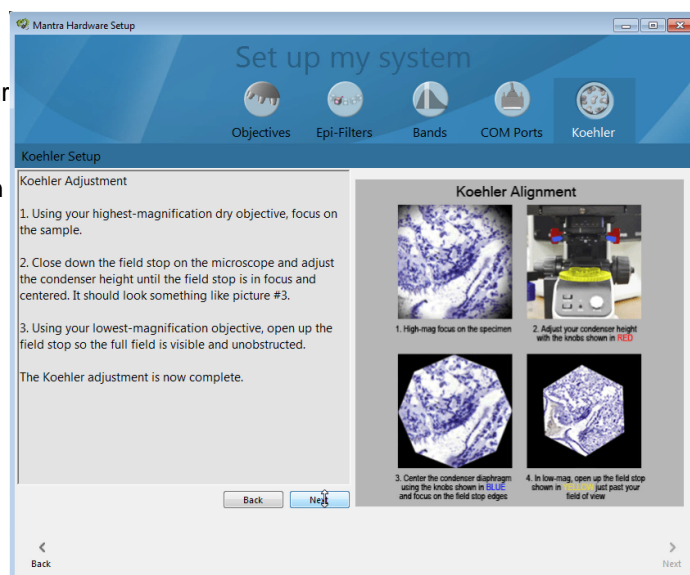

Figure 52. Step 2 of the Koehler alignment procedure requires you to center and focus on the edges of the field stop.
Step 2. Use the Objective rocker switch on your Mantra system to select the highest magnification (20X or 40X, depending on your configuration). Close down the field stop by rotating the ring located around the brightfield illuminator (highlighted in yellow in Figure 52). Then adjust the height of the condenser by turning one or both of the condenser height adjustment knobs (highlighted in red in Figure 52) until the edges of the field stop are sharp. Finally, use the Objective rocker switch to select your lowest magnification (4X) and open the field stop until your field of view is unobstructed.